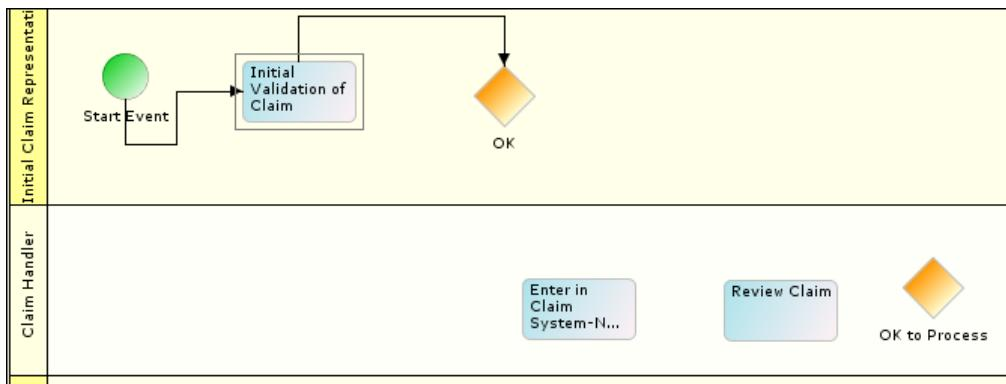

Figure 19: Connecting Workflow Elements
- Drag the cursor between two workflow elements. Both workflow elements are connected with the selected flows (see Figure 19).